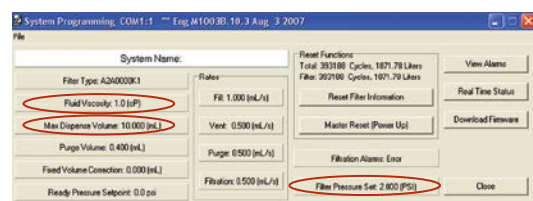

Figure 4. IntelliGen Mini MMI System Programming page
7. After the filter priming is complete, return to the System Programming page (Figure 4) and return filtration pressure to original setting.